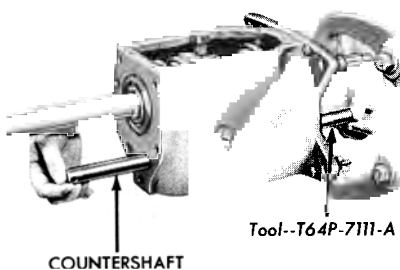

FIG. 4—Removing Countershaft from Case
24. Install the clutch release bearing on the clutch release lever. Position the release lever through the housing from inside the housing and clip the lever retainer onto its hook as shown in Fig. 4.
5. Support the countershaft gear with a wire hook. Working from the front of the case, push the countershaft out the rear of the case as shown in Fig. 4. Lower the countershaft to the bottom of the case with the wire hook. Remove the hook.